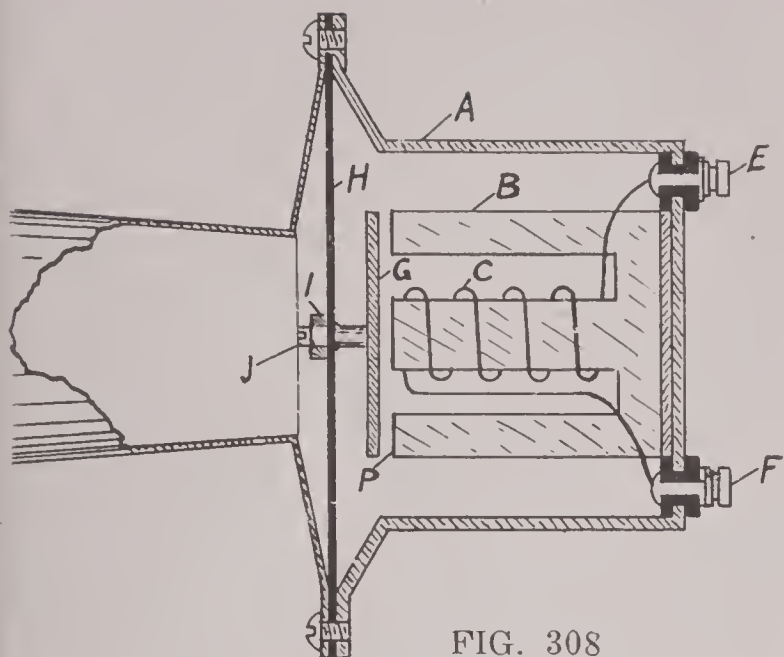

FIG. 308
The Ford horn is illustrated in Fig. 308. The mechanism of this horn consists of an "E" shaped electromagnet (B) with a winding on the center leg of the core. Near the poles of this electromagnet is a soft iron disc (G) fast-